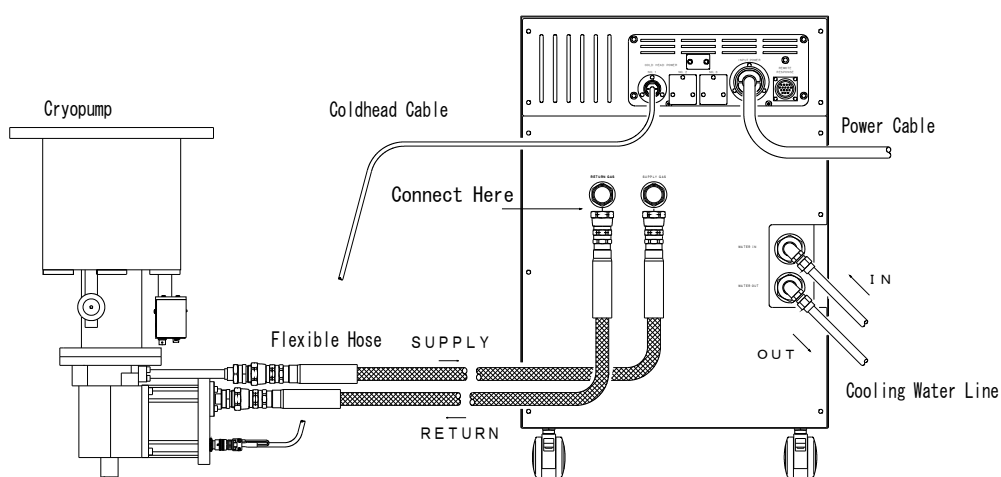

Figure 8-6 Connecting Flexible Hoses
- 1 1. Make sure that the flat rubber gasket of the self-sealing coupling is never disconnected nor twisted. Then connect the flexible hoses to the compressor unit. (See Figure 8-6).